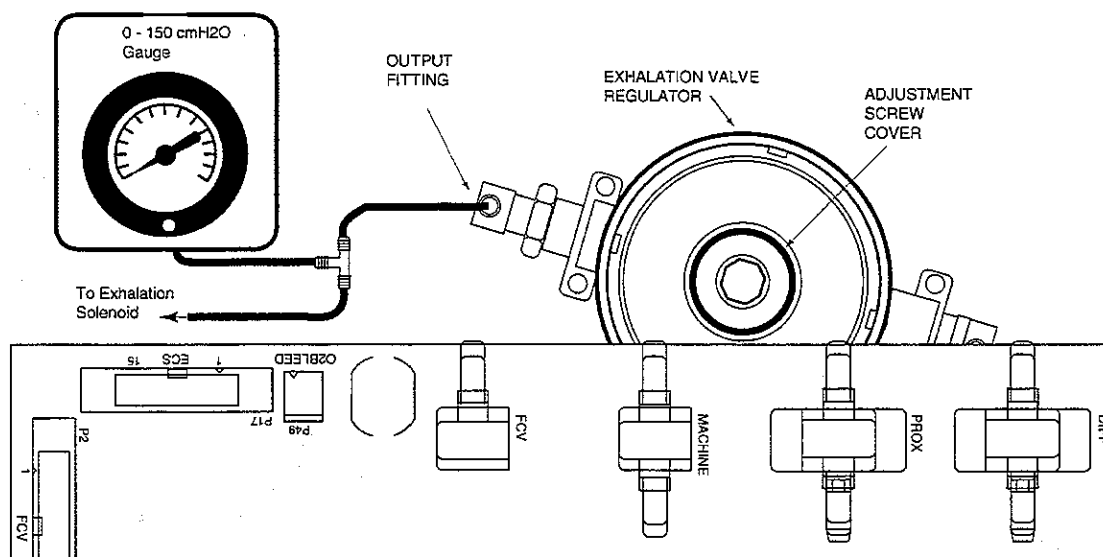

Figure 5-11
2. Tee in the pressure gauge to the Exhalation Valve Regulator output fitting as shown in Figure 5-11.